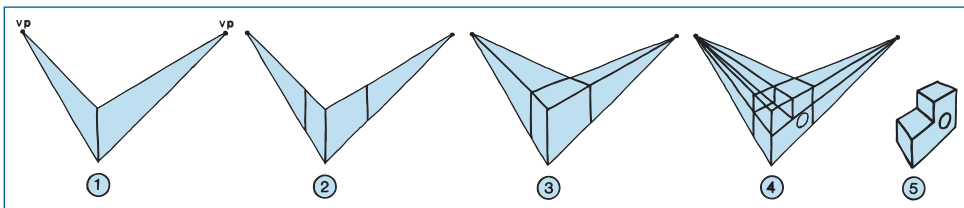

Figure 3-11 Steps to sketch a two-point perspective drawing.
2. **Two-point perspective** sketches are similar to isometric sketches, except the side lines recede to two vanishing points. First, sketch the front vertical corner (Figure 3-11). Establish two vanishing points above or below the front corner line, and connect the top and bottom of the front corner line to each of